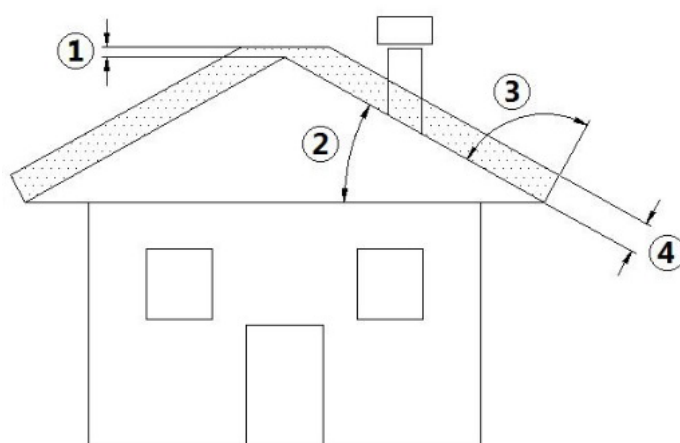

Fig. 2 - Inclined roof
LEGEND Fig. 2 page 7
- The outlet height in the atmosphere must be away from the reflux area caused by the roof structure or by obstacles laying nearby (see **Fig. 2 page 7**).